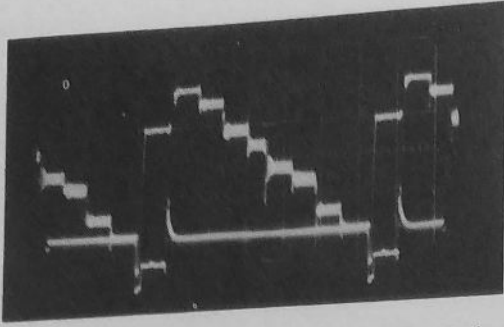

Figure 35. Input, Video Input 2J13. Output, Red Output, 0.7V B-W Variable Brightness Pulse.
3. Place TEST switch in MONO, position 3. Use the low capacity probe on the scope and connect it to the red output. A colorplexed signal with subcarrier, burst, and sync signals removed, but with a brightness pulse present during blanking should be obtained. Adjust the CONTRAST control for a 0.7 volt black to white bar amplitude. Turn the BRIGHTNESS control through its range. This will cause the brightness pulse to vary in the positive and negative direction from black level. (See Figure 35.)